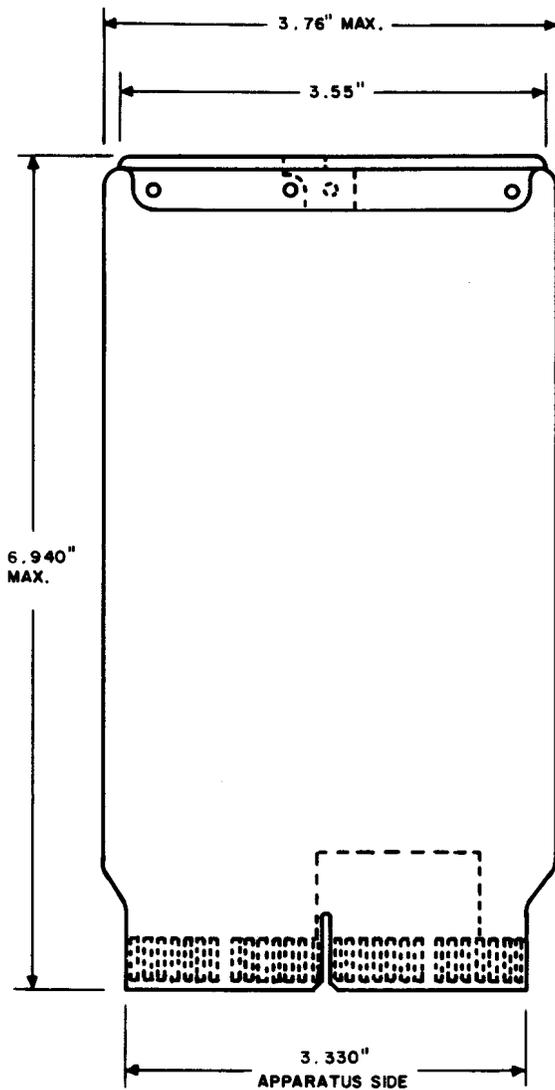

Fig. 1—782A Data Mapping Test Tool
**2.06 782A:** The 782A tool (Fig. 1) is a No. 1 ESS data mapping test tool. When installed in the central control (CC), it allows, by software control, the data mapping program access to all program store (PS) information blocks, but prevents PS configuration change by the operating system software.